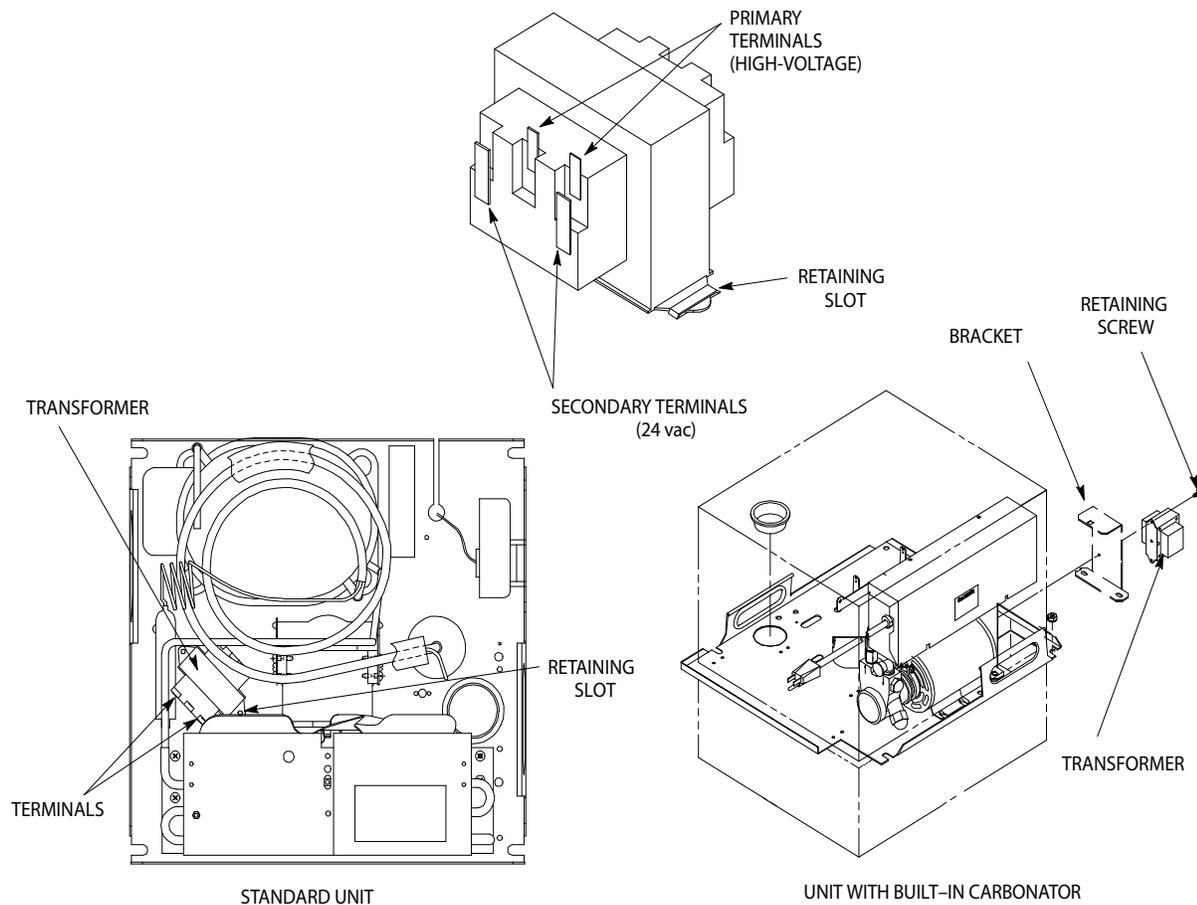

Figure 1. Transformer Location
- A. Attach one foot of the new transformer (Item 1) to the existing retaining slot and make sure wiring tabs are not in contact with other components of the unit (See Figure 1).
- D. Install new Carb Tank Access Cover (item 4).